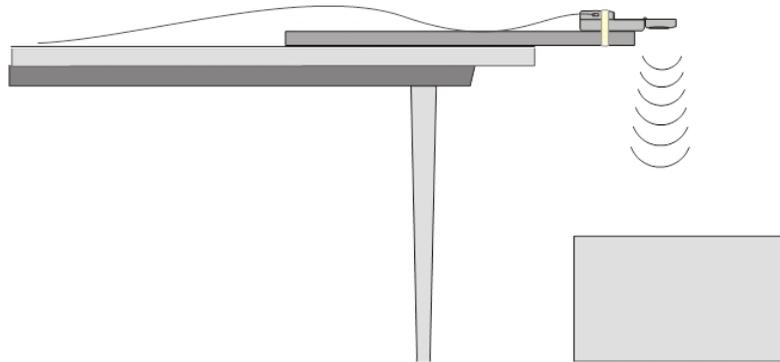

Figure 1
- c. Place the board with the Motion Detector flat on your table as shown in Figure 1.